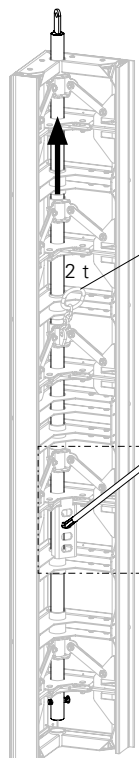

Fig. A17.05
2. Attach crane lifting gear to the load-bearing point (Fig. A17.05):
(Fig. A17.05 + A17.05a + A17.05b)